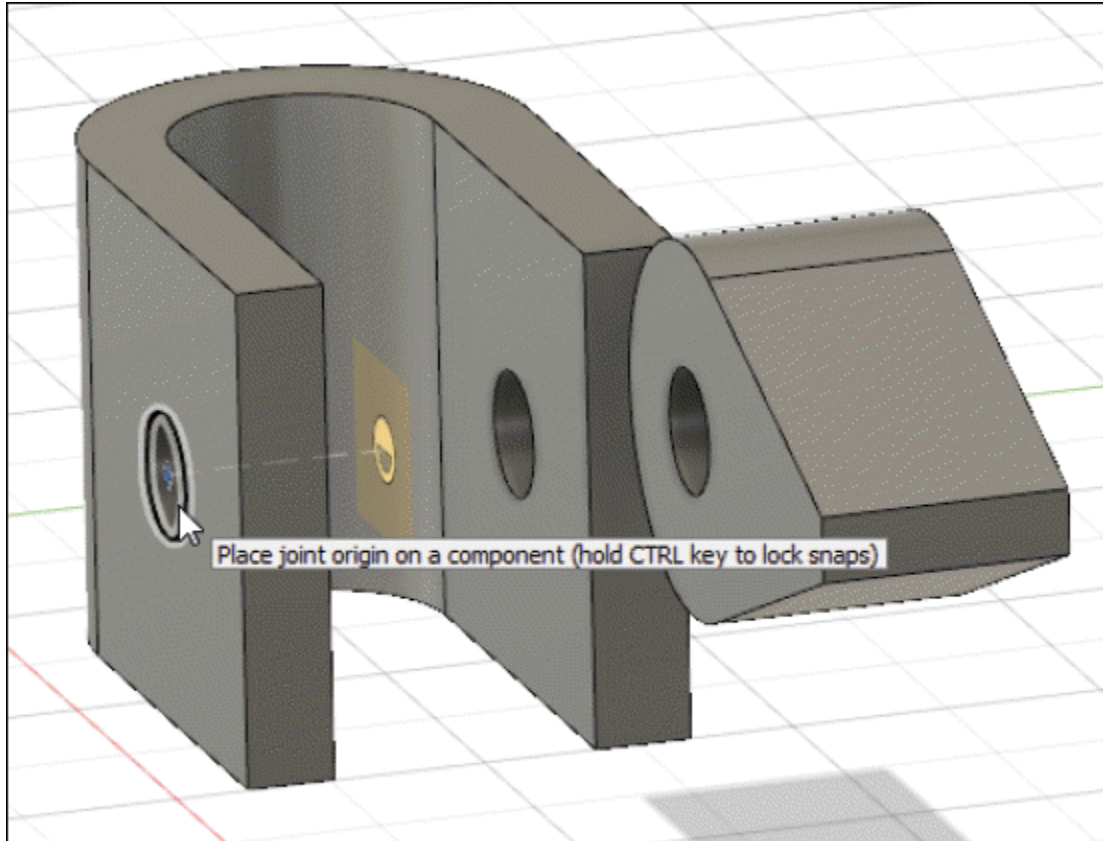

Figure-31. Selection of snap point
- The **Select** button of **Snap** option is active by default. Click at desired location to define the snap point; refer to Figure-31.